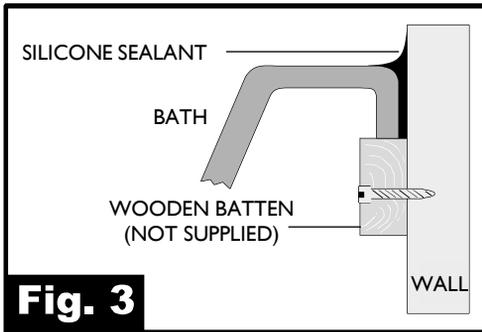

Fig. 3
10. Remove the bath, and fit a softwood batten to this line to act as additional support to the rim. (See Fig.3)